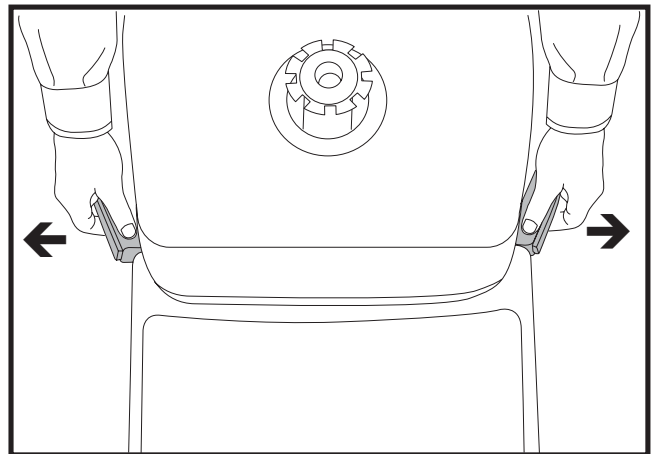

Figure 12. Rear Shroud Removal
4. Gently pull the shroud away from the frame and lift it off of the scooter. See figure 12.